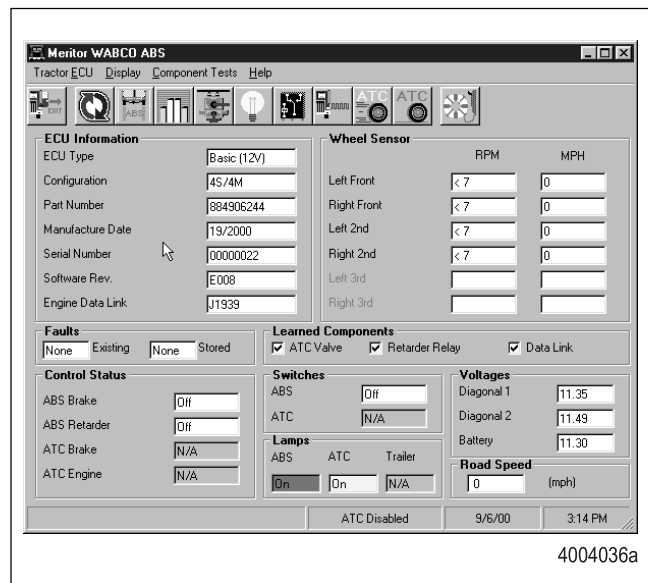

Figure 3.2
2. Select TOOLBOX™ Software from the Desktop or from the Windows Start Menu to display the TOOLBOX™ Main Menu. From the Main Menu, select Tractor ABS. The ABS Main Screen will appear. Figure 3.2.